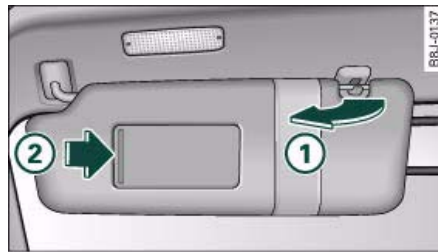

Fig. 61 Passenger's side: Sun visor
The sun visors for the driver and the front passenger can be pulled out of their mountings in the centre of the vehicle and turned towards the doors ⇒ fig. 61 ①. Once the sun visor has been turned towards the door you can pull it towards the rear as desired.